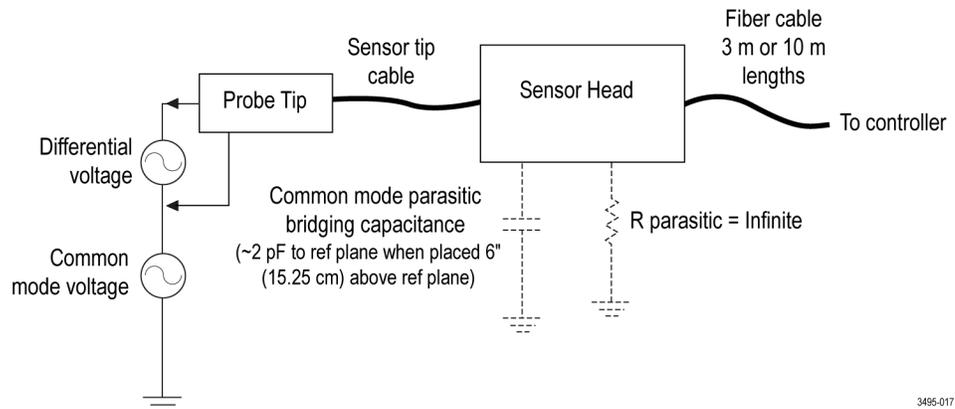

Figure 25: Block diagram
The common mode resistance and capacitance to earth ground is shown in the figure. (See Figure 25.) The common mode resistance is shown as $R_{parasitic}$ and is essentially infinite with the IsoVu measurement system since it is galvanically isolated and can be ignored. The common mode coupling capacitance to earth ground and the surrounding circuit is shown as the Parasitic Bridging Capacitance ($C_{parasitic}$). This parasitic capacitance will be approximately 2 pF when the sensor head is placed six (6) inches (15.25 cm) above a ground plane.